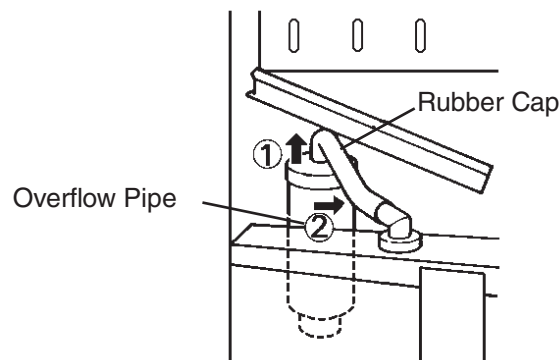

Fig. 14
- 7) Remove the rubber cap covering the overflow pipe in the water tank. Remove the overflow pipe by turning it counterclockwise. Allow the water tank to drain. See Fig. 14.
- 5) Remove the rubber cap covering the overflow pipe in the water tank. Remove the overflow pipe by turning it counterclockwise. Drain the water tank. See Fig. 14.
- 3) Remove the rubber cap covering the overflow pipe in the water tank. Remove the overflow pipe by turning it counterclockwise. Allow the water tank to drain. See Fig. 14.